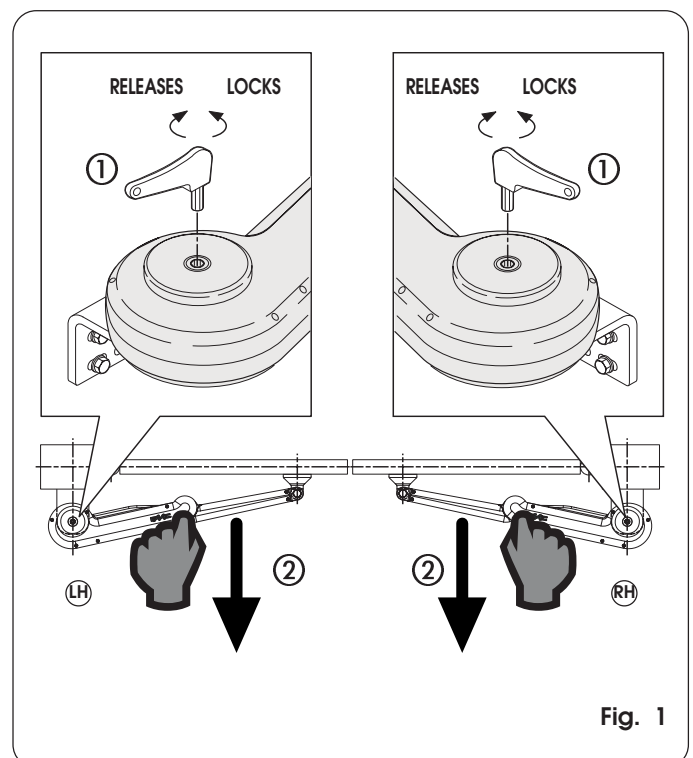

Fig. 1
- Remove the protective cap from the release screw, fit the supplied Allen wrench and turn clockwise until it stops (Fig. 1 Ref. ①).
- Pull in the operator's 'elbow' zone and open the gate (Fig. 1 Ref. ②).
- Fit the supplied Allen wrench and turn anti-clockwise until it stops (Fig. 1 Ref. ①). Put back the protective cap.